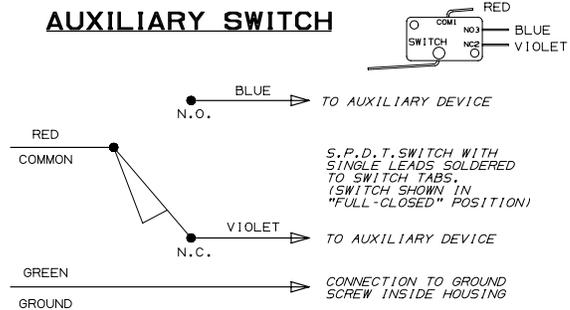

Fig. 7
2. See Figure 7 for Auxiliary Switch wiring schematic.